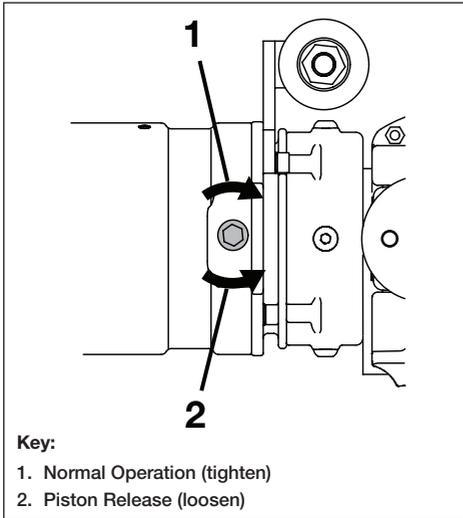

Figure 9, Piston Release Screw
Before using the cutter, check that the piston release screw is turned fully clockwise and securely tightened. Use an 8 mm Allen wrench. See Figure 9.
3. Be sure that the piston release screw is turned fully clockwise. See Figure 9.